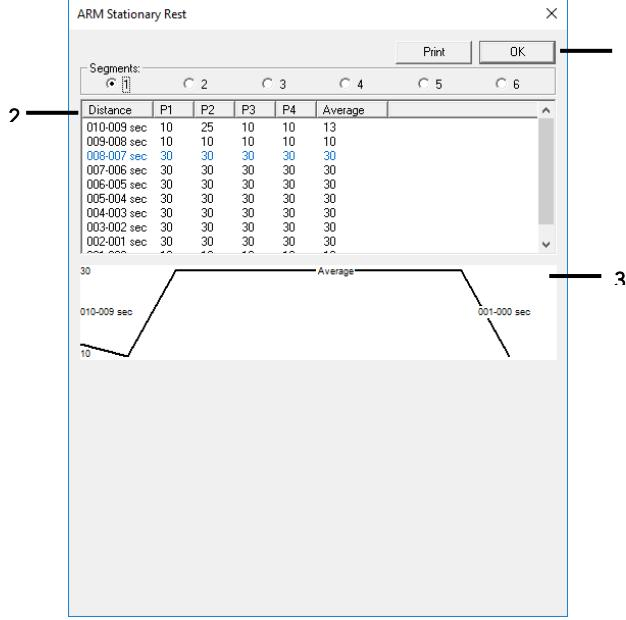

Figure 203: ARM Stationary Rest Summary Window
- a. Refer to ARM Stationary Rest Summary Window in Figure 203.